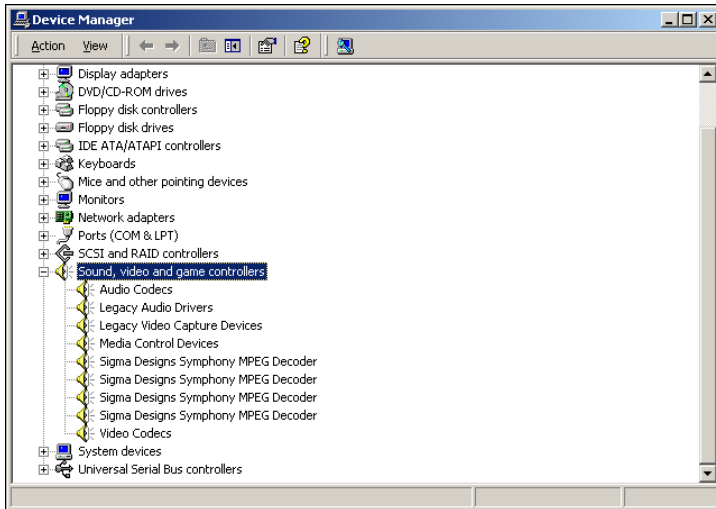

Figure 1-2. Device Manager Screen Following Driver & Software Install
18. When the four CineView Quad drivers have been installed properly, and the Device Manager screen appears, you may notice exclamation marks on the names of the new drivers. Following Vela system software installation, which starts on page 10, the exclamation marks will disappear and the resultant Device Manager screen will look similar to that in Figure 1-2. Note that the Quad decoder drivers will carry the name of “Sigma Designs Symphony MPEG Decoder.”